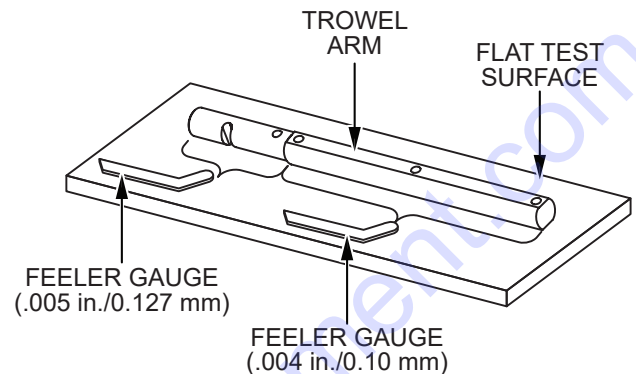

Figure 54. Checking Trowel Arm Straightness
- Use a thick steel plate, granite slab, or any surface which is true and flat (Figure 54) to check all six sides of each trowel arm for straightness.
- Check each of the six sides of the trowel arm hex section. A feeler gauge of .004 inch (0.10 mm) should not pass between the flat of the trowel arm and the test surface along its length on the test surface. See Figure 54.
- Check the clearance between the round shaft and the test surface, as one of the flat hex sections of the arm rests on the test surface (Figure 54). Rotate the arm to each of the flat hex sections and check the clearance of the round shaft. Use a feeler gauge of .005 inch (.127 mm). Each section should have the same clearance between the round of the trowel arm shaft and the test surface.